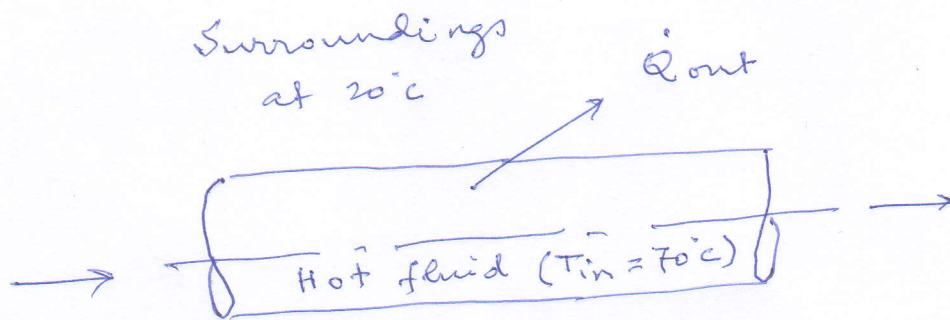

Fig. 4 Heat losses in an uninsulated pipe
- Under normal operating conditions, the amount of heat gained or lost by the fluid may be very significant, particularly if the pipe or duct is long. See Fig. 4.